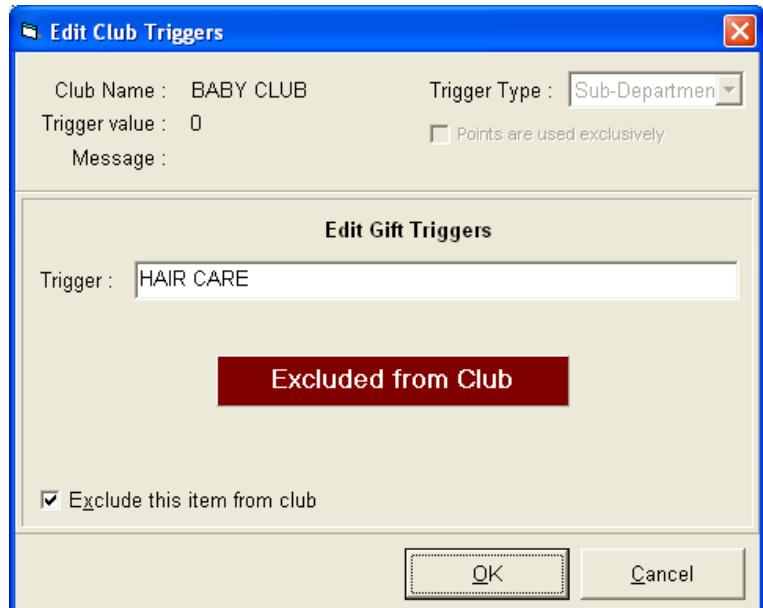

Figure 371
10. When adding any trigger to a club you will notice the option called 'Exclude this item from club' (see Figure 371). Ticking this option permits you to exclude a particular trigger from a club. For example you may want to exclude the entire 'Hair Care' sub-department from earning points.